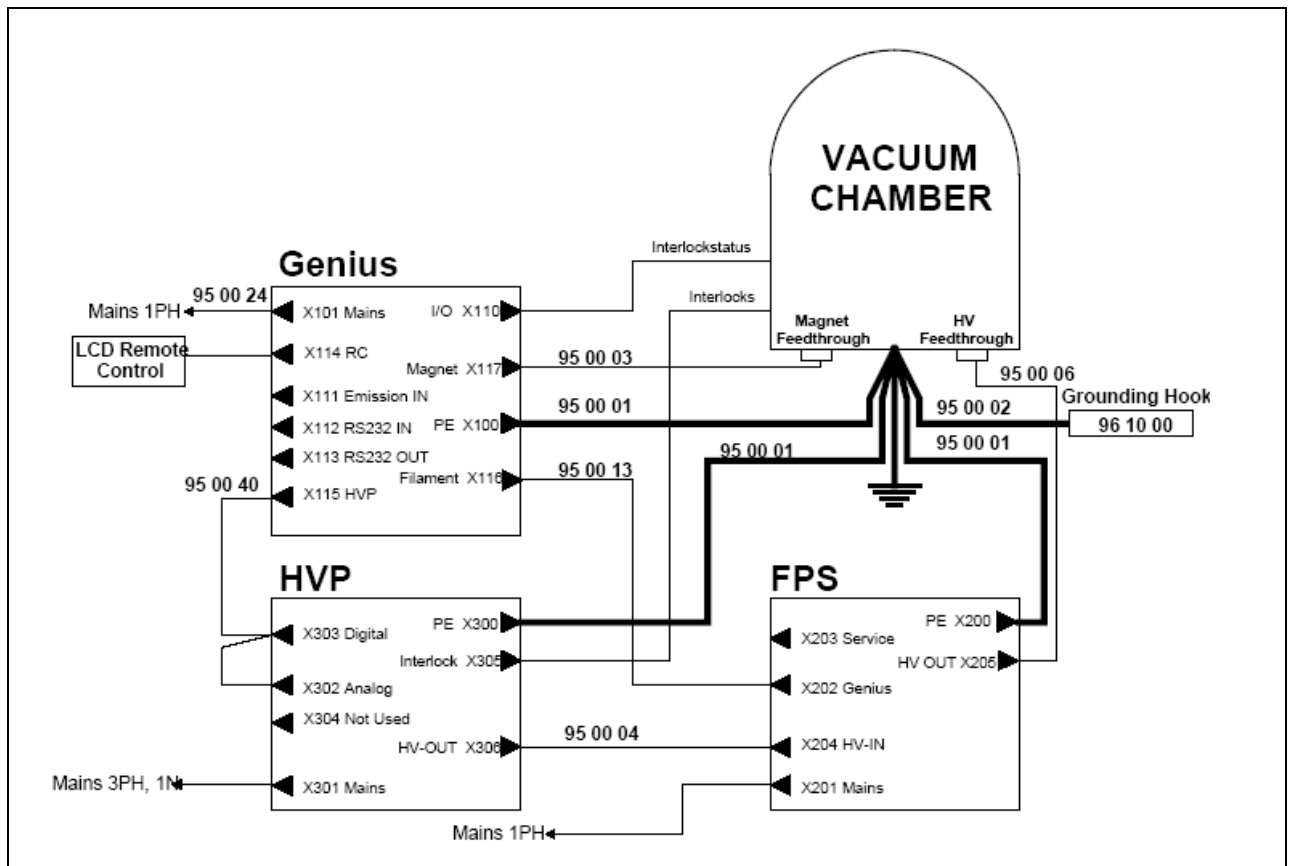
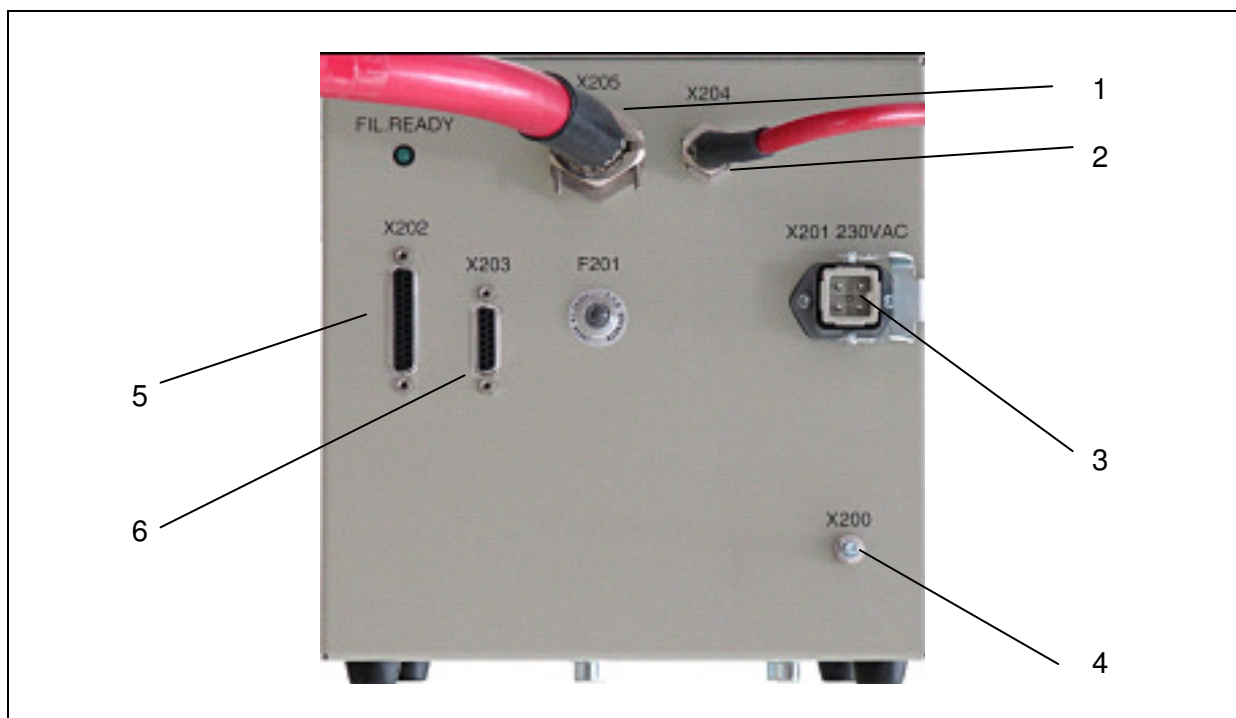

Fig. 5-2 Wiring diagram of the CARRERA-System
Fig. 5-3 Overview of the electrical connectors
- 3 Mains connecting cable (see Fig. 5-2) Nr. 950024
- 4 High voltage cable: HV-Input (see Fig. 5-2)
- 5 High voltage cable to supply filament (see Fig. 5-2)
- 6 Grounding cable (see Fig. 5-2) P/N. 950000
- 7 Filament control cable (see Fig. 5-2) P/N. 950013
2. Connect the devices in accordance with the overview of electric connections, Fig. 5-3 and the Fig. 5-2 the wiring diagram of the CARRERA system.